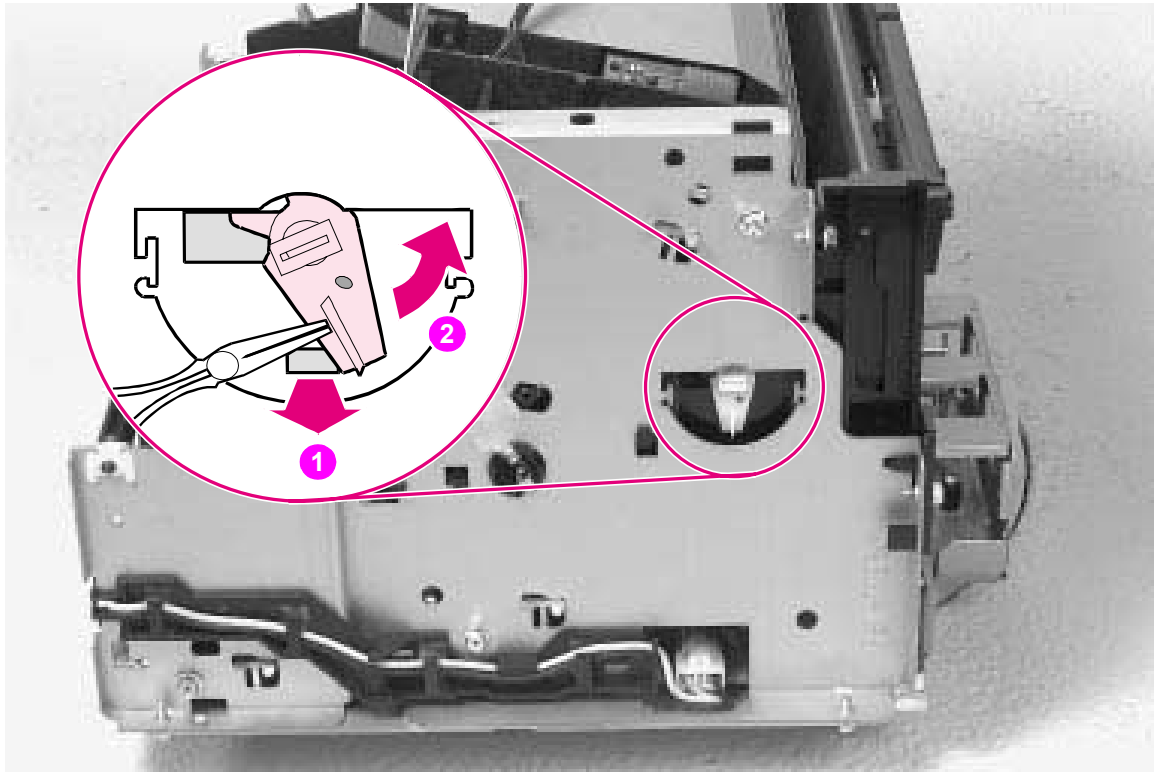

Figure 6-24 Pickup Roller Assembly removal (2 of 2)
- 4 Using needlenose pliers, pull the bottom of the bushing out (Figure 6-24, callout 1), then turn it counter clockwise to release it (Figure 6-24, callout 2).